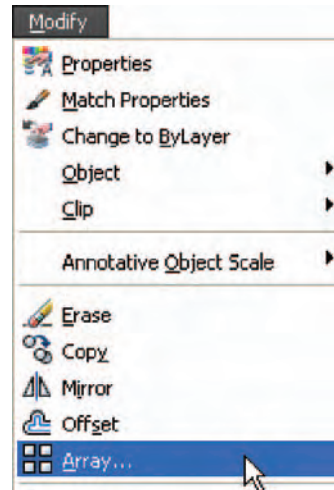
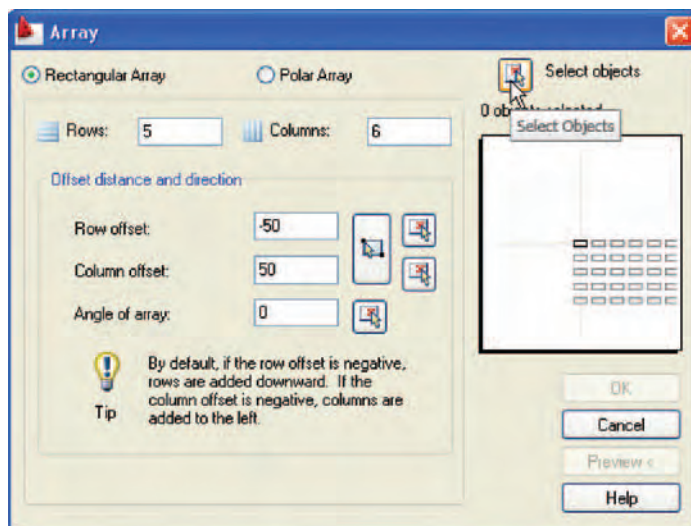

Fig. 5.16 Selecting **Array** from the **Modify** drop-down menu
Fig. 5.17 First example – the **Array** dialog
First example – **Rectangular Array** (Fig. 5.17)
2. Call the **Array** tool – either *click* **Array** in the **Modify** drop-down menu (Fig. 5.16), from the **Home/Modify** panel, *pick* the **Array** tool icon from the **Modify** toolbar, or *enter* **ar** or **array** at the command line. The **Array** dialog appears (Fig. 5.17).